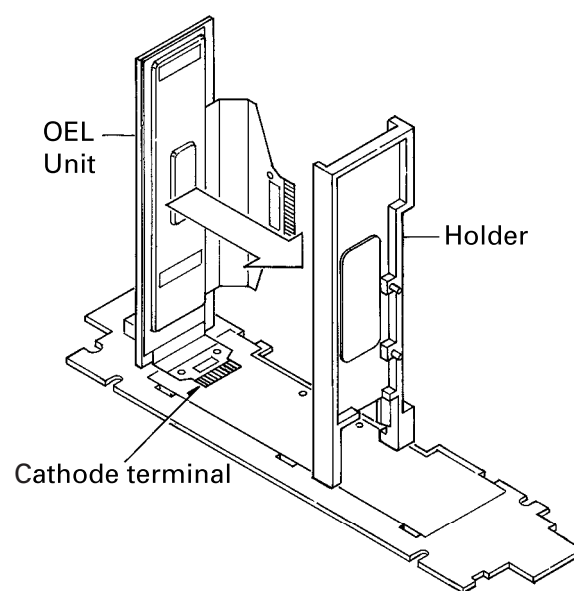

Fig.9
3. Slowly set up the OEL Unit. At this time, the stress is prevented from hanging to flexible cable in the Cathode terminal. (Fig.9)
4. The Cathode terminal is removed according to the procedure same as the Anode terminal, and the OEL Unit is removed. (Fig.9)
5. Remove the Holder. (Remove after removing the Cathode terminal without fail.) (Fig.9)